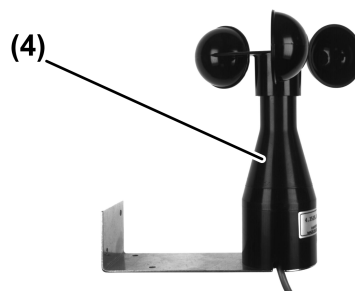

Figure 2
- Mount the wind encoder on the roof or on the wall of a house. It must be attached at a position suitable for wind speed measurement. Do not mount it in the wind shadow and ensure mounting in the correct position (see figure 2).
- Connect wind encoder to the  $S_1$  and  $S_2$  device connection terminals (7) of the evaluation unit. Use a shielded cable for this. Recommendation: JY-ST-Y 2x0.6.